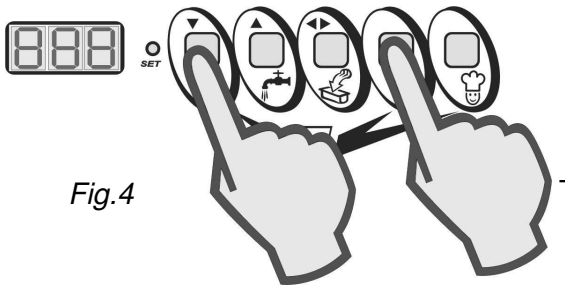

Fig.4
- With the cycle in progress, press the STOP and AUTOMATICO (AUTOMATIC) keys again (Fig. 4).